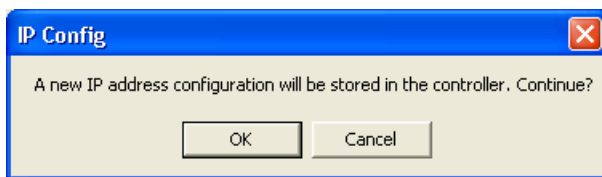

Figure 60. IP Config confirmation dialog window
5. Type Primary Ethernet Interface Subnetmask (255.255.252.0) and click **Set IP**. The new address is sent to the PLC and an IP Config window opens, see Figure 60.